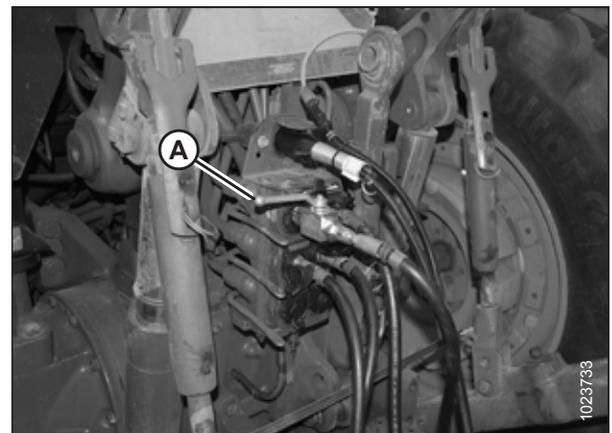
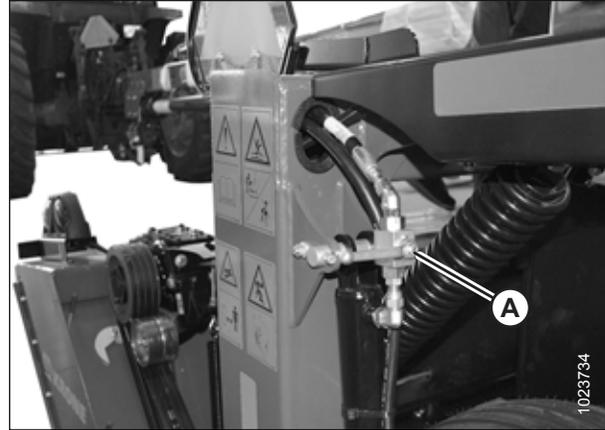

Figure 8.22: Steering Lock-Out Valve
Figure 8.23: Lift Cylinder Lock-Out Valve
11. Close the steering lock-out valve and the two lift cylinder lock-out valves by turning the handles to the closed position. Refer to Figure 8.22, page 163 and Figure 8.23, page 164.